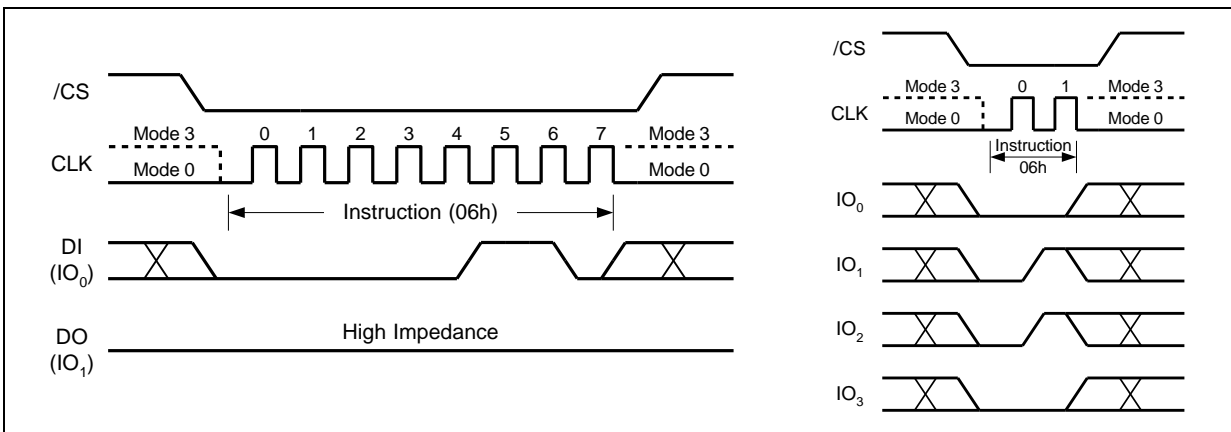

Figure 5. Write Enable Command for SPI Mode (left) or QPI Mode (right)
The Write Enable command (Figure 5) sets the Write Enable Latch (WEL) bit in the Status Register to a 1. The WEL bit must be set prior to every Page Program, Quad Page Program, Sector Erase, Block Erase, Chip Erase, Write Status Register and Erase/Program Security Registers command. The Write Enable command is entered by driving /CS low, shifting the command code “06h” into the Data Input (DI) pin on the rising edge of CLK, and then driving /CS high.